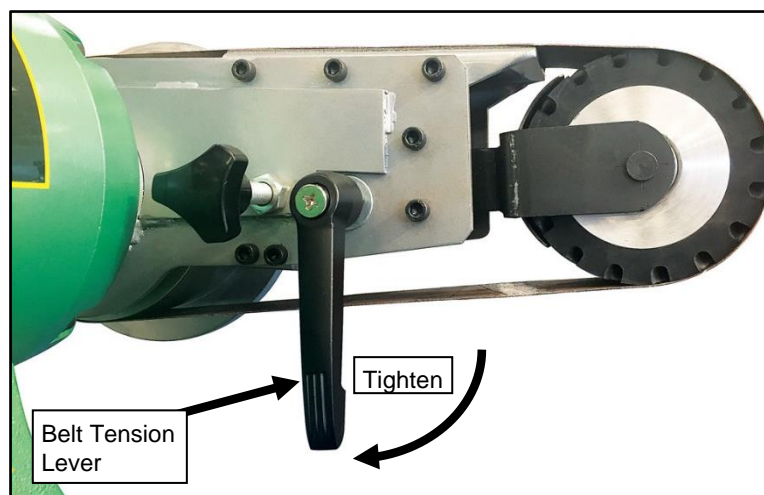

Figure 2 – Blade Tension Lever in Tightened Position
4. To re-tension belt turn the belt tension lever downwards which releases the tensioning mechanism and tightens the belt (clockwise direction whilst facing lever). Refer Figure 2.